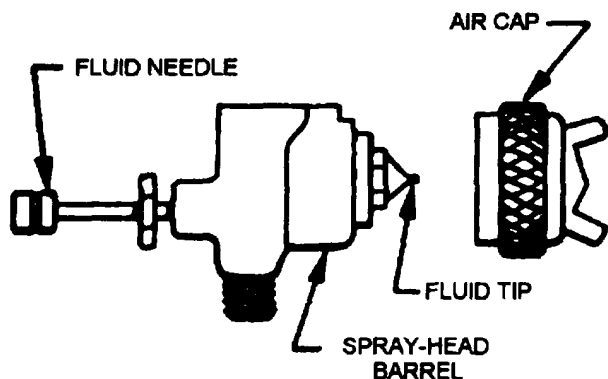

Figure 1-20.—Principal parts of the spray-head assembly.
- **Spray head:** Most spray guns have a removable spray-head assembly. This type of gun has several advantages. For example, it is easier to clean; it permits you to change the head quickly when you want to use anew material or a new color of material; and the head is replaceable when damaged. The principal parts of the spray-head assembly are the (1) air cap, (2) fluid tip, (3) fluid needle, and (4) spray-head barrel. The fluid tip regulates the flow of the spray material into the air stream and encloses the end of the fluid needle. The spray-head barrel is the housing that encloses the spray-head mechanism. See figure 1-20.